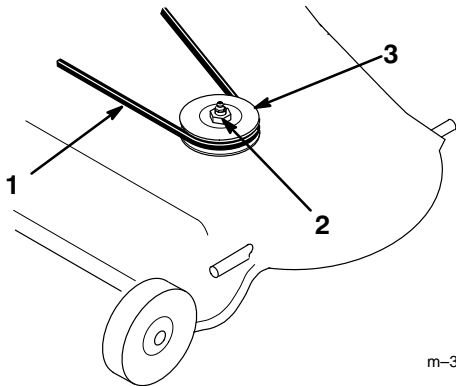

Figure 6
2. Remove the nut and lock washer retaining the pulley (Fig. 6). Remove the single groove pulley.